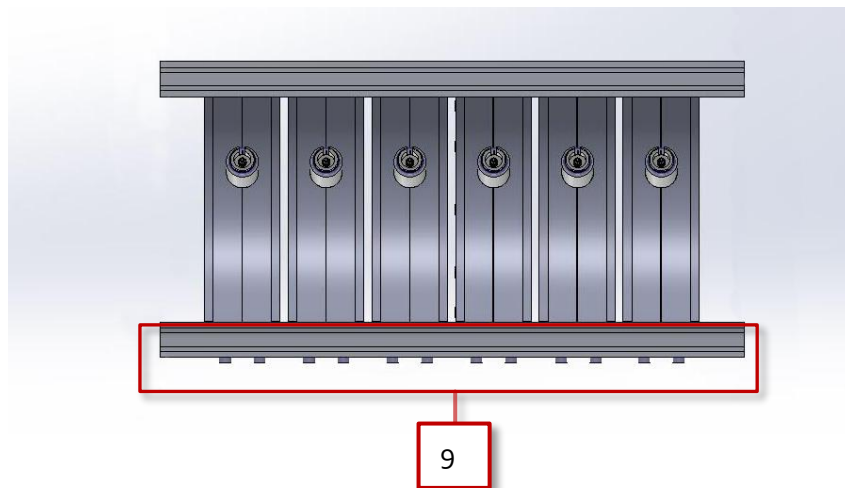

Figure 75 Loosen all screws on the bottom connection bar
- Loosen all of the screws (M6) on the bottom connection bar for the broken reactor block 5 mm, see Figure 75.